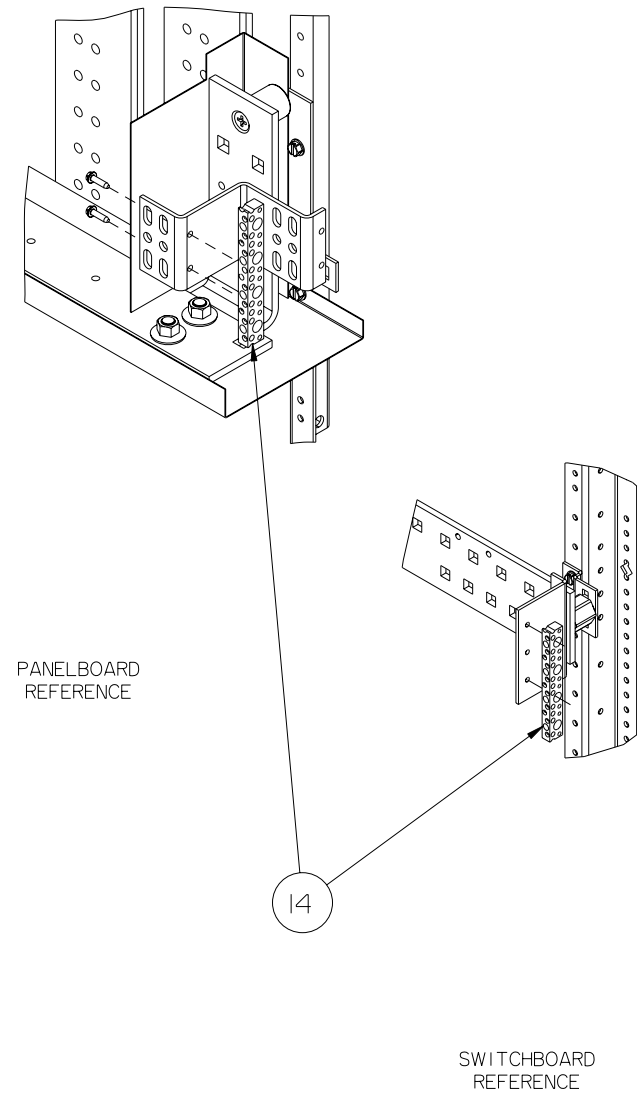

Figure 9
9. Reference fig. 9 - Installing the Neutral Lug Assembly (item 14). The Branch Neutral is mounted at the bottom of the "Z-rails", or mirrored at the top depending upon the feed cable location. The Neutral Lug Assembly (item 14) can be mounted (as shown) on either side of the Branch Neutral depending on cable feed location. Torque all hardware as specified on the rear of the dead front.